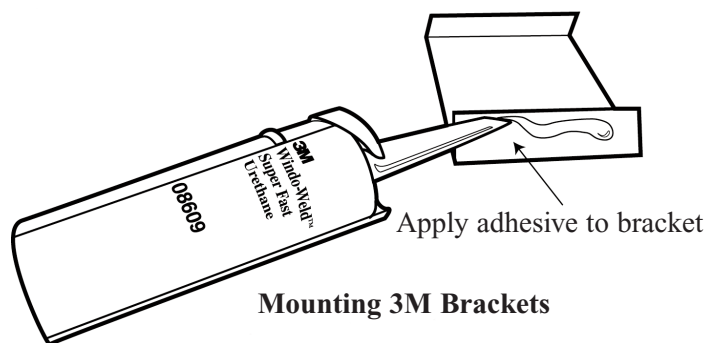

FIGURE 10
- For mounting the 3M brackets to the guardrail and the linear delineation system panels to the brackets, 3M recommends the use of 3M™ Windo-Weld™ Super Fast Urethane (#08609).* This product is stocked at most local general Automotive Supply Stores. The product is available in a standard caulking tube and should be applied to the brackets and panels with a construction style caulking gun. The Windo-Weld urethane must be applied at 60F + in dry weather conditions. One tube of Windo-Weld caulk will adhere 10 linear delineation system panels and 30 linear delineation system brackets of either 4-inch or 6-inch styles (see Figure 10).